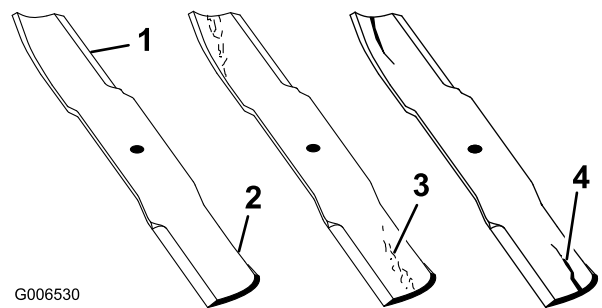

Figure 54
1. Inspect the cutting edges (Figure 54). If the edges are not sharp or have nicks, remove and sharpen the blades. Refer to *Sharpening the Blades*.
2. Inspect the blades, especially the curved area (Figure 54). If you notice any cracks, wear, or a slot forming in this area (item 3 in Figure 54), immediately install a new blade.